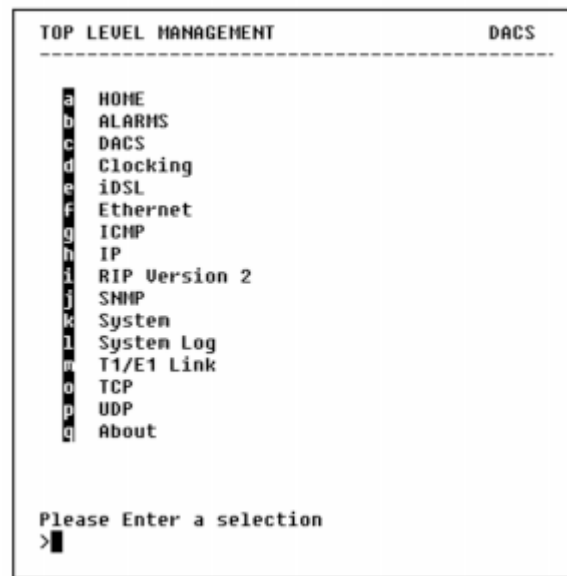

Figure 18. VT-100 Top Level Management window
12. For the password, type **superuser**; the TOP LEVEL MANAGEMENT window then appears (see figure 18).